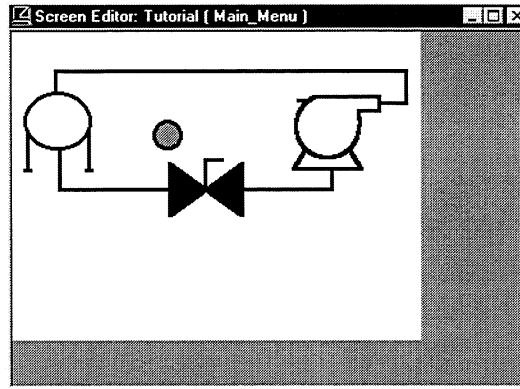

Figure 4-21. Adding a Circle to Main\_Menu Screen
2. By using the Circle button from the Drawing Palette, add a small circle above the horizontal valve, as shown in Figure 4-21.